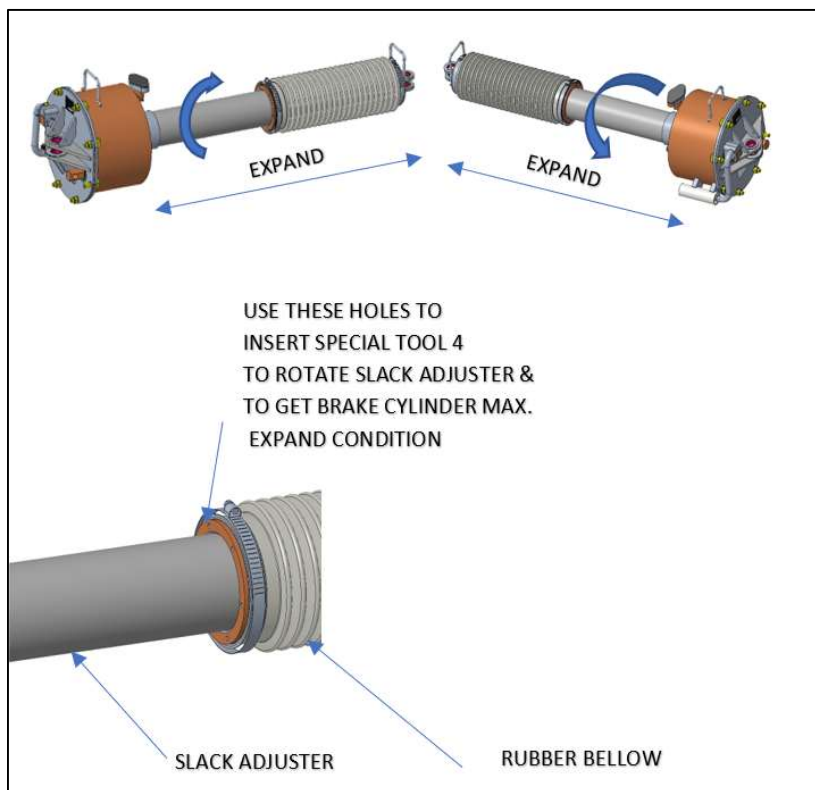

Figure 37A: Rotating the Barrel Pipe
1. Rotate the barrel pipe (11) with the help of hands or using Special Tool 4 and fully expand the barrel pipe assembly (11) as shown in Fig. 37A